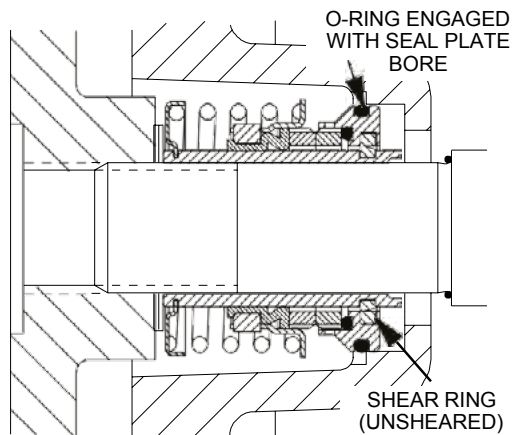

Figure 6. Seal Partially Installed
Clean and inspect the impeller as described in Impeller Installation and Adjustment. Install the full set of impeller shims (30) provided with the seal and screw the impeller onto the shaft until it is seated against the seal (see Figure 6).